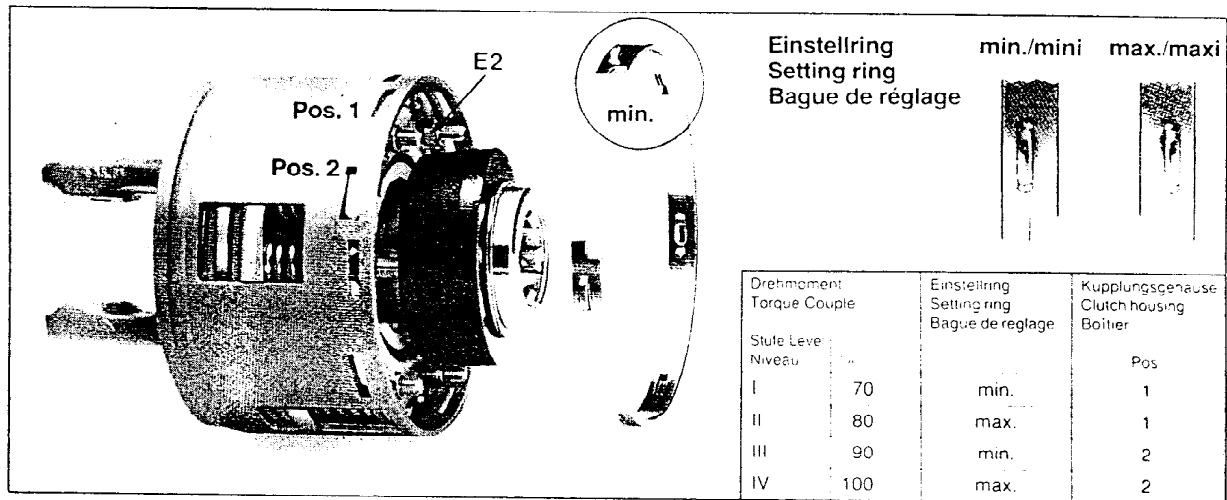

Fig. 3
Standard gearbox: Dipstick (17 Fig 3).
2. The clutch housing incorporates two (Fig. 3) locating positions for the setting ring (Pos. 1 and Pos. 2) which are situated at different levels.
For each power pack, four torque settings are possible (see Fig. 3 table). The setting ring can only be removed in relieved condition which is obtained by tightening the nuts (3 Fig. E2).